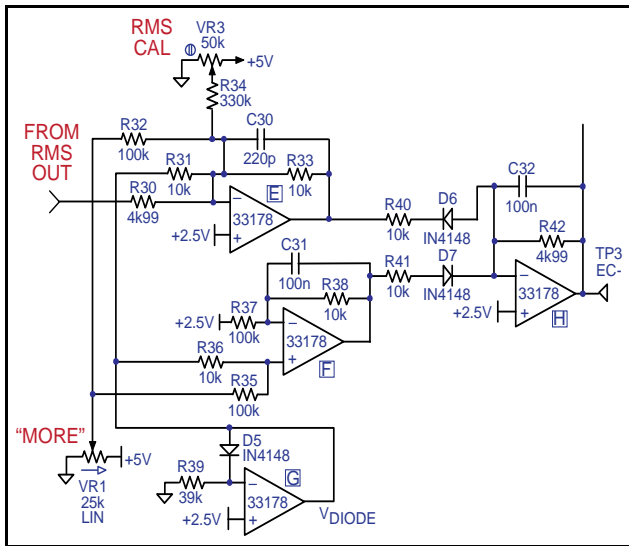

Figure 6. "One Knob" Sidechain Circuit
The Sidechain and More control, shown in Figure 6, are the heart of the One Knob Squeezer which uses soft knee compression to provide a pleasant-sounding, gently sloped, compression curve. The sidechain relies on three important concepts:
- 1) Soft knee compression exploits the exponential voltage-current characteristics of common silicon diodes (D6 in figures 6 and 9) to smooth the compression curve. THAT Design Note 00A provides an example of a soft-knee multi-control compressor and a detailed explanation of the “sloppy rectifier.”